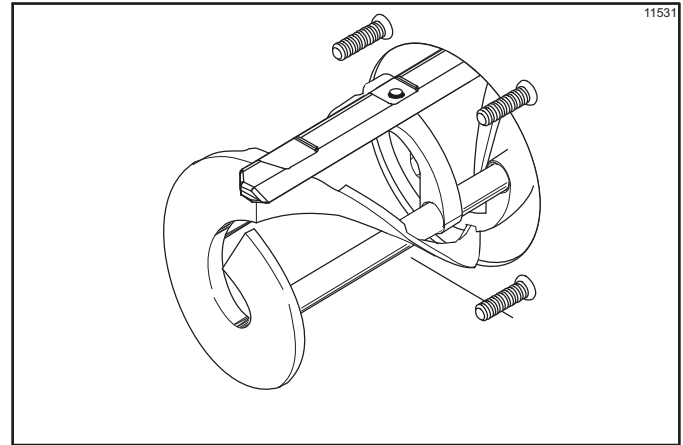

Figure 6-5
- Holding the rear blade on the beater, slide it into the freezing cylinder halfway. Install the front scraper blade over the front holding pin. (See Figure 6-5.)